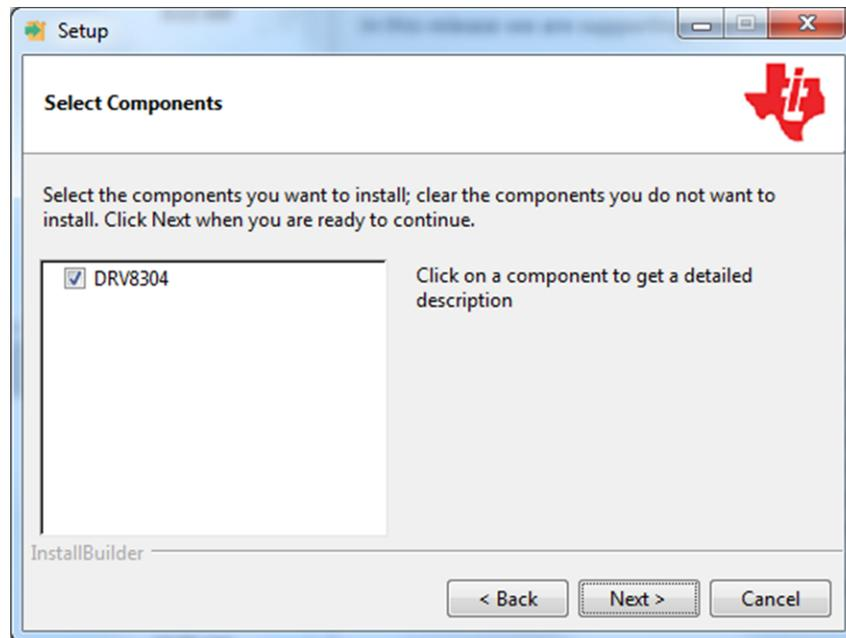

Figure 17. Select DRV8304 Setup Components
- Step 6. Select each DRV83x component to install (see Figure 17).